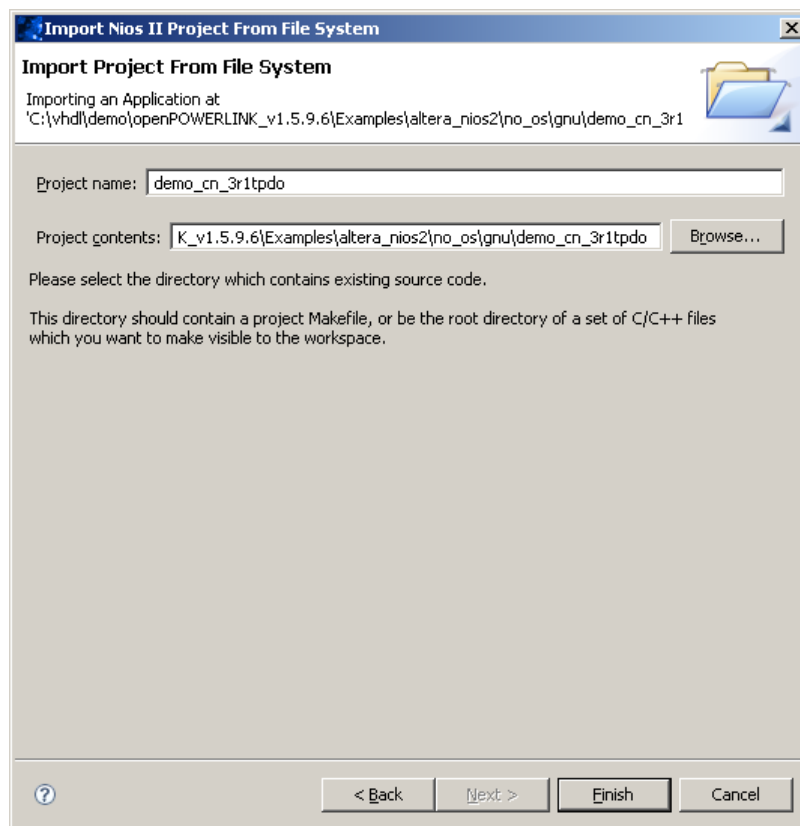

Figure 7-3: import the example application
11. Browse to **MYROOT**\openPOWERLINK_v1.5.9.6\Examples\altera_nios2\no_os\gnu\demo_cn_3r1tpdo (ignore warnings!) to get the example application of a CN (refer to Figure 7-3)